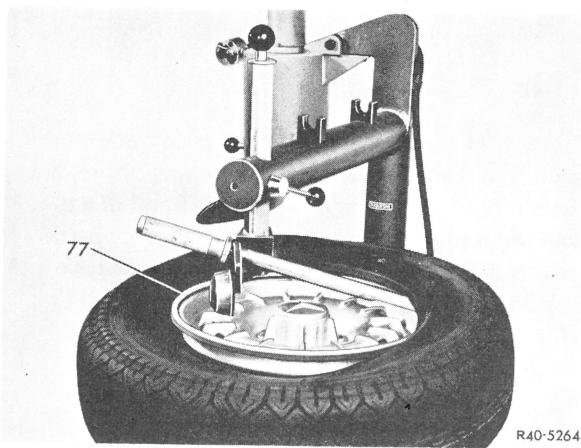

Fig. 4
3 When pulling the tire from the rim flange, make sure that the bead section (rubber coating and wire core) are not excessively stressed. Suitably rub rim flange with sponge soaked in a soap solution. **The pulling lever of the tire changing unit should have no sharp edges or other damage**, since this might damage the rubber coating of the bead (Fig. 4).
d) Prior to removing the tire, insert a suitable guard ring (77) to prevent that the pulling lever of the mounting unit makes direct contact with the rim flange) (Fig. 4 and 11).
Note: When no guard ring is available, a suitable piece of metal sheeting approx. 50 mm wide should at least be placed between the pulling lever and the rim flange when lifting the tire bead (Fig. 4).